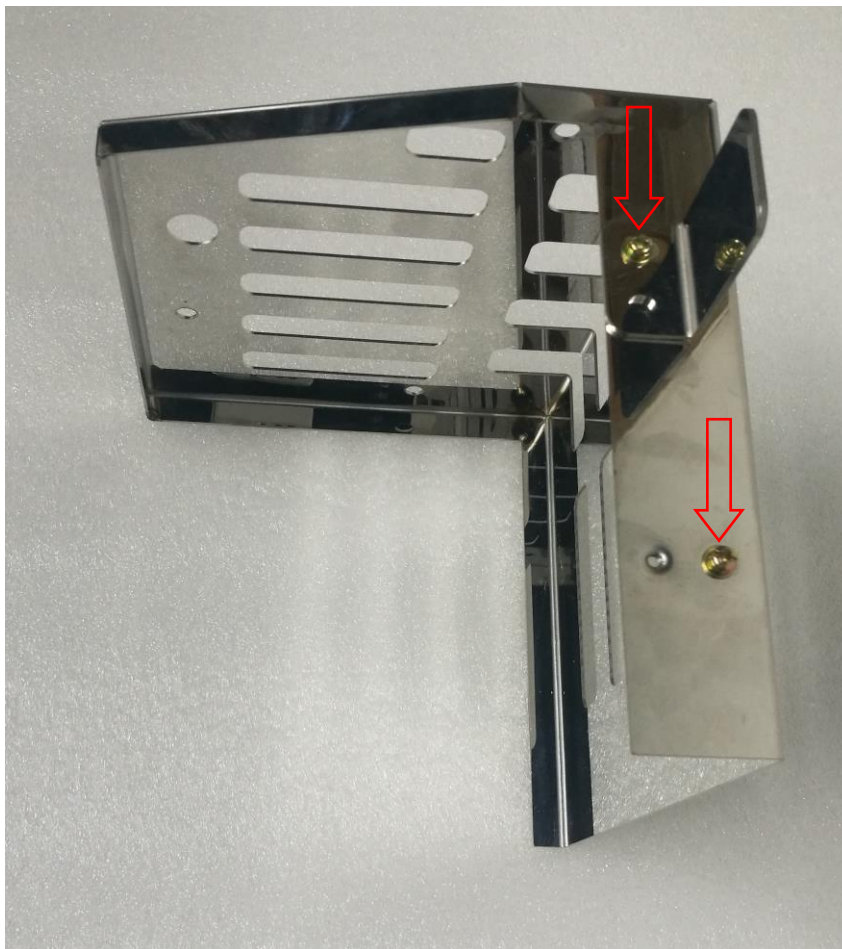
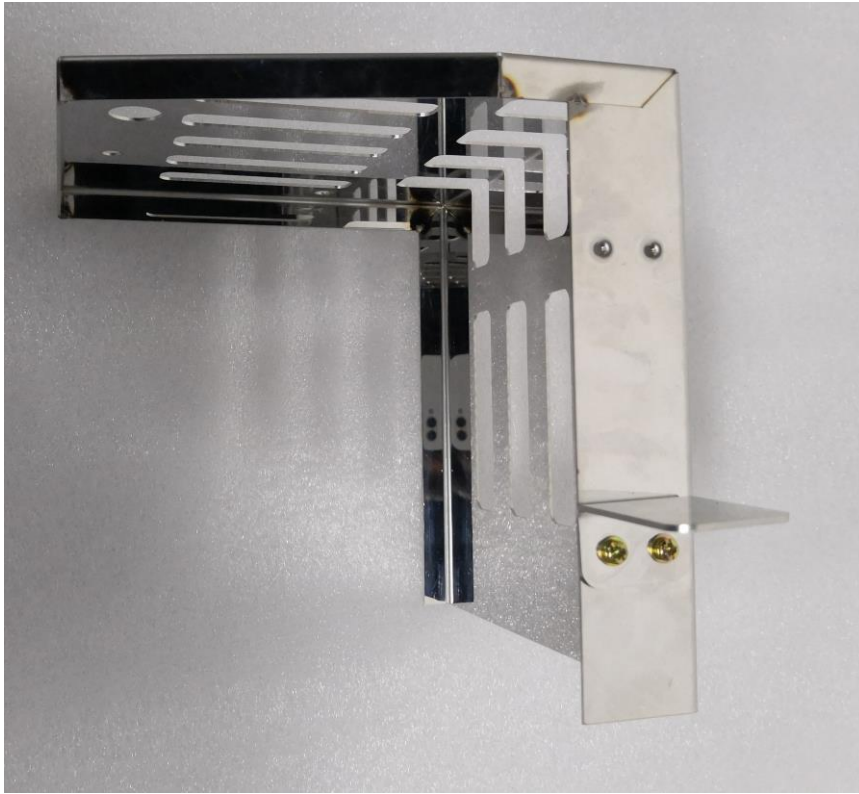

Figure 1-6 Light source safety switch bar on the inner cover of the light source
Figure 1-7 Change the location of the light source safety switch
- 4) The light source safety switch on the inner cover of the light source is shown in Figure 1-6. It can be changed to Figure 1-7 by unscrewing 2 screws;